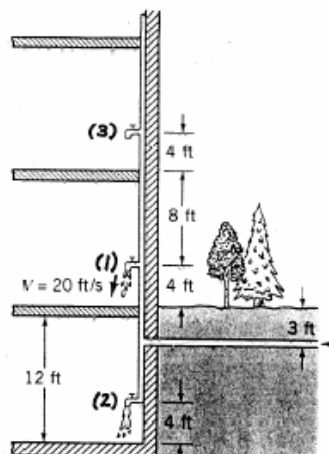

FIGURE P3.14
3.14 Water flows from the faucet on the first floor of the building shown in Fig. P3.14 with a maximum velocity of 20 ft/s. For steady inviscid flow, determine the maximum water velocity from the basement faucet and from the faucet on the second floor (assume each floor is 12 ft tall).